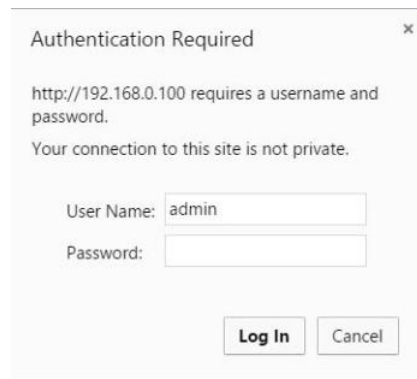

Figure 20 Authentication Dialog Box
- h. Apply below information at the Authentication Dialog box. Please refer to below Figure 20.